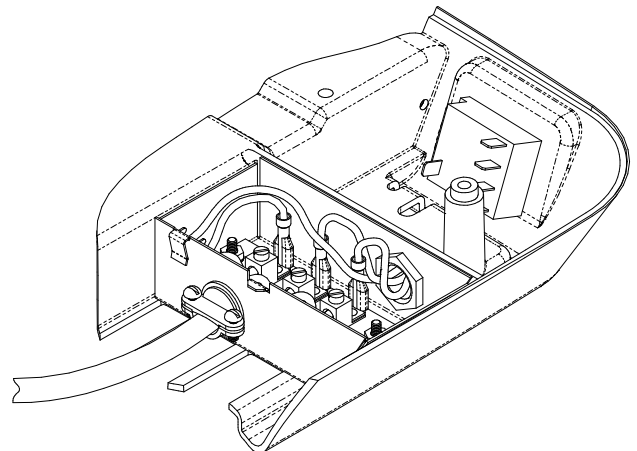

FIGURE 8
- E. Insert the supply wiring through the cable clamp and into the field wiring box so that 4 – 6" of supply conductor is inside the box. Secure the cable clamp over the supply wire sheath so that no movement is possible (See Figure 8).
- F. Strip individual wire lead ends back 19mm. Connect the supply power conductors to the "A" and "N" lugs on the terminal board. **IMPORTANT** – If power is from one "Hot" and one "Neutral" conductor, connect the neutral to "N". Connect the ground wire to the "E" lug on the terminal board (See Figure 8).